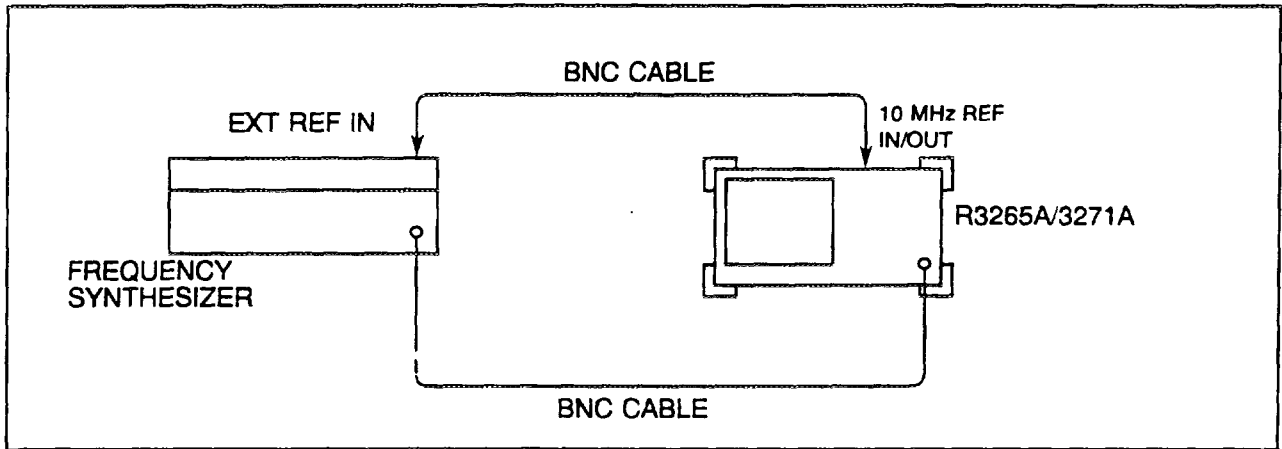

Figure 4-4 Frequency Drift Test Setup
(1) Connect the equipment as shown in Figure 4-4.
(2) On the HP3325, set the controls as follows: